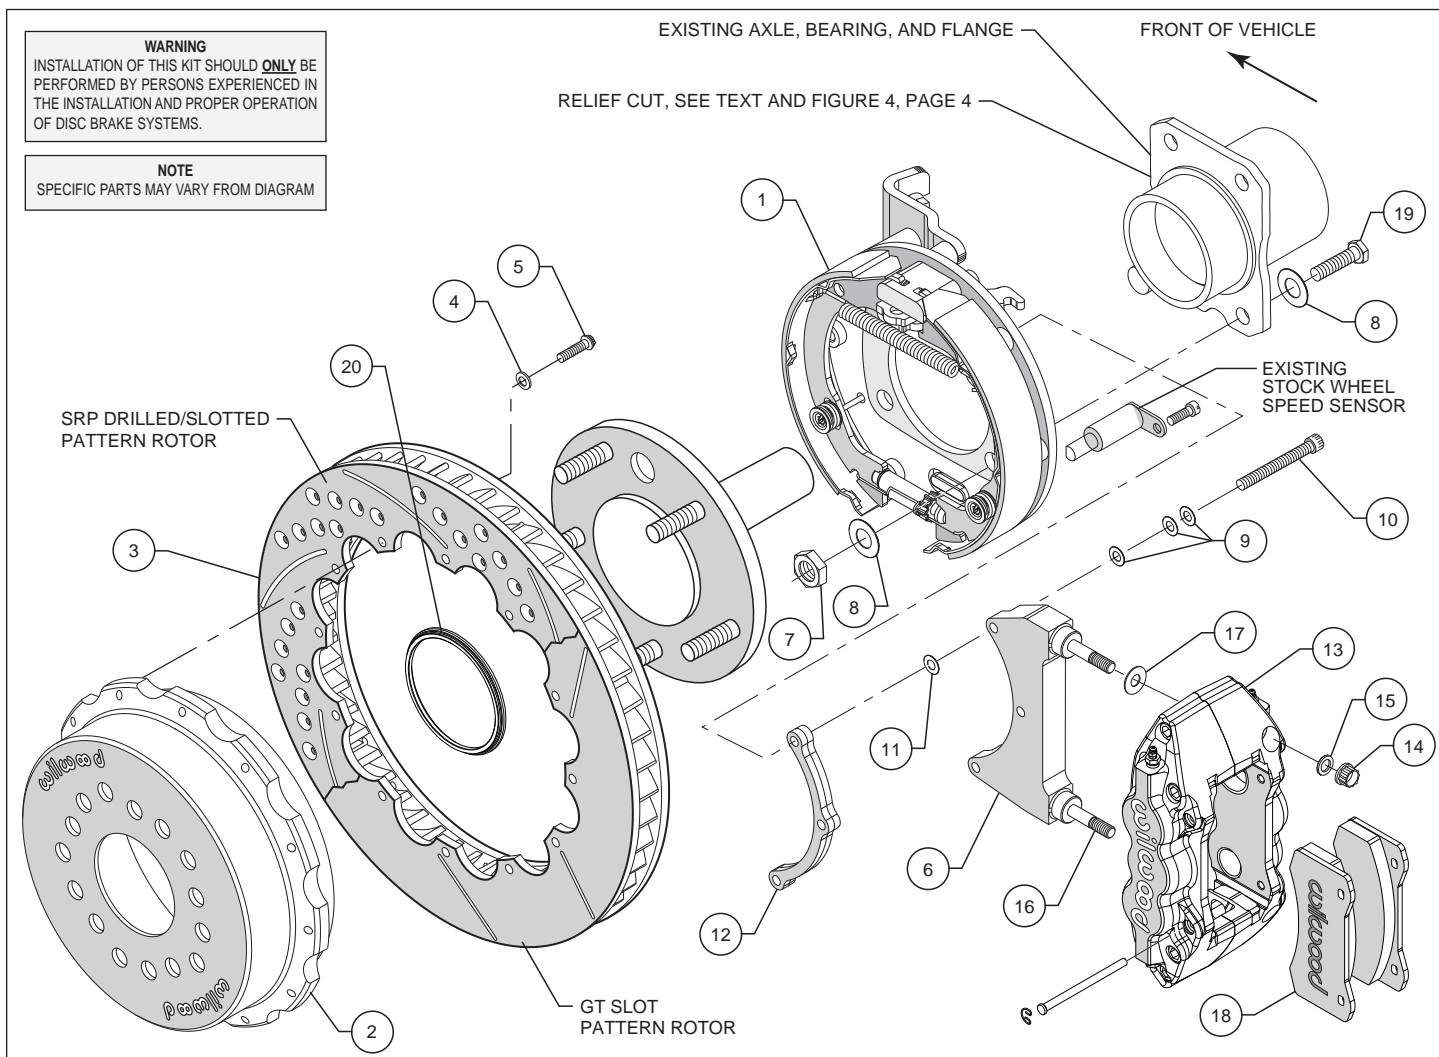

Figure 1. Typical Installation Configuration
- Slide the rotor registration adapter (20) onto the axle register on the axle flange with the smaller O.D. facing toward the rotor/hat (2). Align the correct hole pattern in the hat with the stud pattern on the axle flange. **NOTE:** Some OEM and aftermarket axles come with stud sizes larger than 0.50" diameter. Verify stud size and have a qualified machine shop drill the hats to the correct size, if necessary. Slide the hat/rotor assembly (2 and 3) over the wheel studs covering the bracket kit assembly (1) and against the axle flange face. Check to be sure the hat seats squarely against the hub. Install three lug nuts (finger tighten) to keep the rotor/hat assembly in place while continuing with the installation.
- NOTE:** Please reference the caution statement at the beginning of the assembly instructions. The caliper mounting bracket assembly (6) should be installed first with clean, dry threads on the mounting bolts (10). Install the bracket from the rear side of the bracket kit assembly (1) by sliding bolt (10) through three flat washers (9), bracket (6), shim washer (11) and finally through the spacer (12), see Figure 1. **NOTE:** End of bolt should not exceed inside face of insert. The bracket must tighten squarely against the back side of the bracket kit assembly (1). Inspect for interference from casting irregularities, machining ridges, burrs, etc. Use one thin shim (11) between the bracket (6) and spacer (12) during initial trial fitting.
- Lubricate caliper mounting studs and nuts with lightweight oil. Install one washer (17) over each pre-installed stud (16) on the radial mount bracket (6). Slide the caliper (13) in place over the studs and rotor, then install the washer (15) and lock nut (14) to hold the caliper in place. The caliper bleed screws should be pointing up. Snug the lock nuts (14) and check that the rotor (3) is centered in the caliper (13). Add or subtract .015" shims (11) as necessary between the caliper mounting bracket (6) and the spacer (12) to center the caliper (13).
- Remove the two caliper pad retaining pins from the caliper (13) by popping out the pin retaining clips and sliding out the pins. Slide the brake pads (18) into place. They should install easily without interference. Check that the outside radius of the brake pad is flush with the outside diameter of the rotor. Add or subtract shims (17) between the caliper (13) and mount bracket (6) to gain the proper alignment. Reinstall the pad retainer pins and secure using the pin retaining clips.
- Adjust the parking brake shoes outward (using a drum shoe adjustment tool available at your local auto parts store) while spinning the hat (2) until a slight drag is felt against the hat/drum. Remove the lug nuts that were holding the hat/rotor in place. Install the wheel and lug nuts. Check to see that the wheel rotates freely without interference.
- Once all clearances have been checked, remove the wheel, caliper, hat/rotor from the bracket kit assembly (1). Secure the caliper mounting bracket (6) to the bracket kit assembly (1) using red *Loctite*® 271. Torque bolts (10) to 180 **in-lb**. Reinstall the hat/rotor assembly and again use lug nuts to hold it in place. Reinstall the caliper, torque the caliper nuts (14) to 47 ft-lb.
- NOTE:** Clevis and cable kits which attach to the parking brake assembly are not included in the Wilwood parking brake kit. Wilwood offers a parking brake cable kit, P/N 330-11221 for 2005-2010 and P/N 330-12335 for 2011-present which can be ordered separately from your local Wilwood dealer or by calling Wilwood customer service at (805) 388-1188.